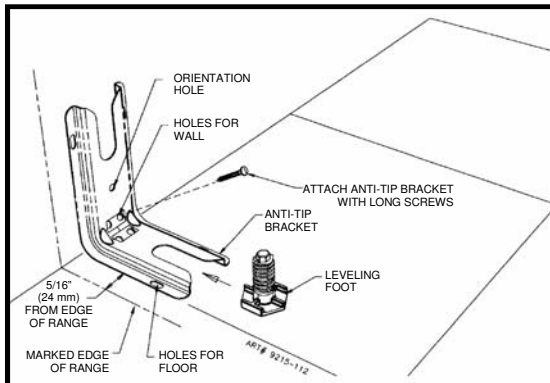

FIGURE 3
### STEP 1 - Locating the Bracket (See Figure 3)
- B. Place the BRACKET 15/16" (24 mm) from the marked "EDGE" toward center of opening and against the back wall as shown in figure 3, with orientation hole against wall.
- C. Use the bracket as a template and mark the required holes, as shown in figure 3 for the type of construction you will be using.
1. Floor: Locate the center of the two holes identified in figure 3 as "HOLES FOR FLOOR". Drill a 1/8" (3 mm) pilot hole in the center of each hole (a nail or awl may be used if a drill is not available). Secure the ANTI-TIP bracket to the floor with the two screws provided. Proceed to STEP 3.
2. Wall: Locate the center of the two holes identified in figure 3 as "HOLES FOR WALL". Drill an angled
Suitable screws for concrete construction can be obtained at a hardware store. Drill the required size hole for the screws obtained into the concrete at the center of the holes identified in figure 3 as "HOLES FOR FLOOR". Secure the ANTI-TIP bracket to the floor. Proceed to STEP 3.